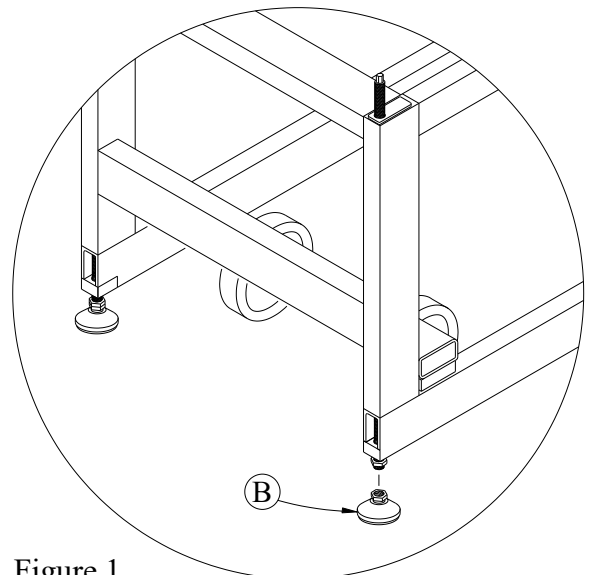
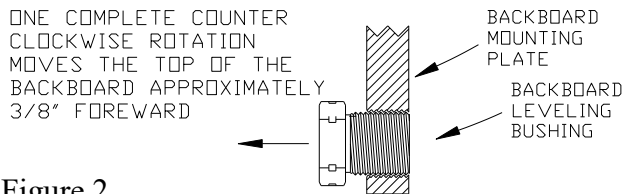
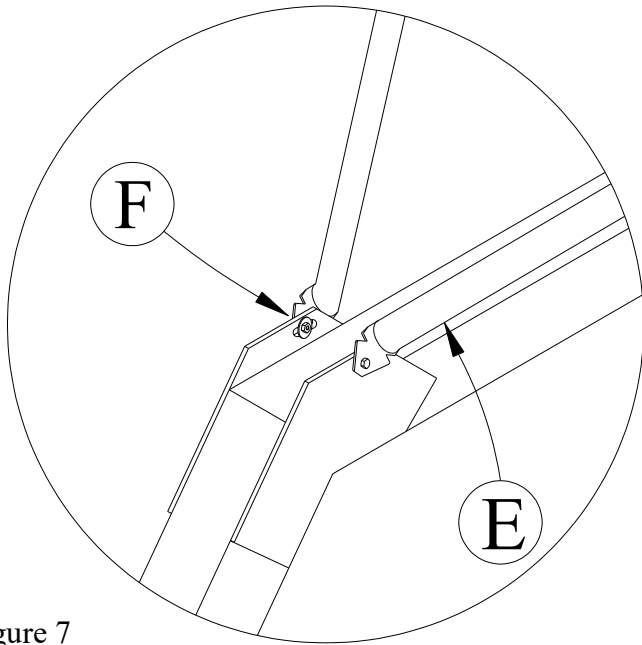

Figure 1
Figure 2
Figure 7
1. Carefully lift the front of the *Portable Base (A)* with a forklift or 4 adults until the back wheels make contact. Remove and discard the shipping pallet. Install the *Foot Pads (B)* and then tighten the jam nuts against the *Foot Pads (B)*. See Figure 1.
2. Make sure *Portable Base (A)* is on a level floor. It is best to finish assembly on the floor where the *Portable Base (A)* will actually be used.
3. Make sure the head of the backboard leveling bushing is threaded up against the backboard mounting plate. See Figure 2.
13. Attach *Backboard Braces* (E) to the extension arm with 3/8” x 1” Hex Bolts (F), Flat Washers (G), Lock Washers (H) and Hex Nuts (I). Attach *Backboard Braces* (E) to the “L” Brackets (C) with 3/8” carriage bolts, flat washers and hex nuts included with the *Backboard Hardware* (K). Tighten all hardware components once in position. Components may not fit flush, but should be secure. See Figures 7 and 8.
14. **OR..** If the top of the *Backboard* (J) is leaning back so that it is not perpendicular to the floor in the playing position, lower the entire unit to the storage position leaving the *Foot Pads* (B) in the same position and proceed.
15. Loosen the *Breakaway Goal Mounting Hardware* (M) just enough to allow adjustment of the backboard leveling bushing. See Figure 2.
16. **OR...** If the top of the *Backboard* (J) is leaning back so that it is not perpendicular to the floor in the playing position, lower the entire unit to the storage position leaving the *Foot Pads* (B) in the same position and proceed.
17. Loosen the *Breakaway Goal Mounting Hardware* (M) just enough to allow adjustment of the backboard leveling bushing. See Figure 2.
18. Rotate the two backboard leveling bushings counter clockwise equally to level the *Backboard* (J) top to bottom. One full rotation (360°) will move the top of the *Backboard* (J) approximately 3/8”. When the bushings are adjusted, retighten all *Breakaway Goal Hardware* (M) and *Backboard Hardware* (K) making sure the *Backboard* (J) and *Breakaway Goal* (L) are level from left to right. Raise the unit to playing position. Measure the *Breakaway Goal* (L) height.